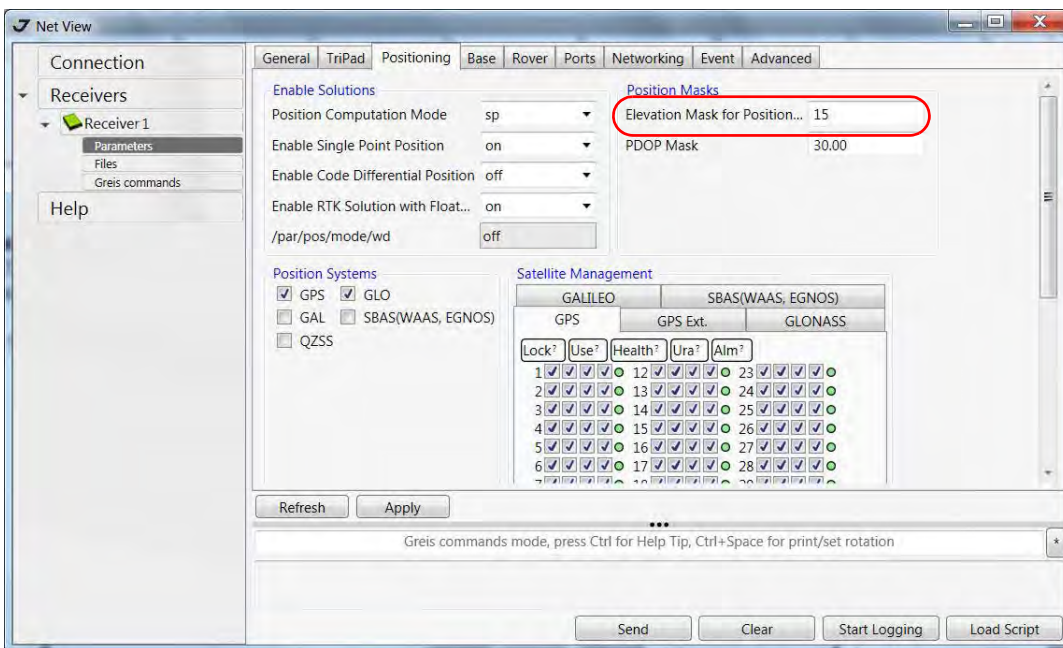

Figure 14. Positioning tab - Elevation Mask
- Open *Positioning* tab and set the Elevation mask to 15 degrees (Figure 14).